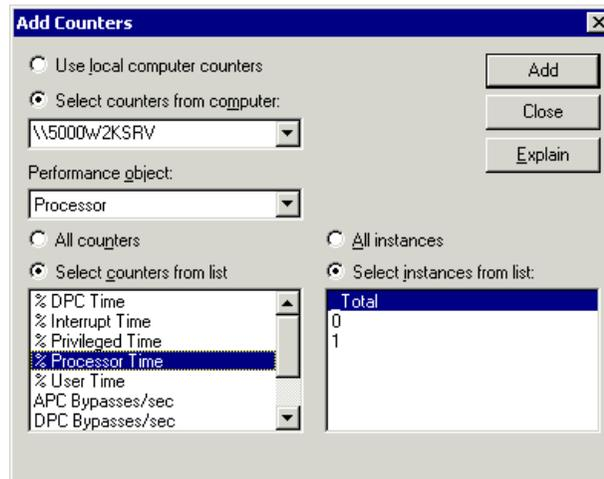

Figure 123. Add Counters
1. Click the **Add Counters** icon on the toolbar (+). This will display an Add Counters dialog box, as shown in Figure 123. This dialog box is used to select the performance object, counters, and instances to be monitored.
Logs are useful for capturing and storing data to a disk for analysis at a later time. Data can also be collected from multiple systems into a single log file. Creating a log consists of selecting objects, counters, and instances or selecting all counters and all instances of a specific object shown in Figure 123 and starting or scheduling the log capture. You may load this data back into System Monitor for analysis.